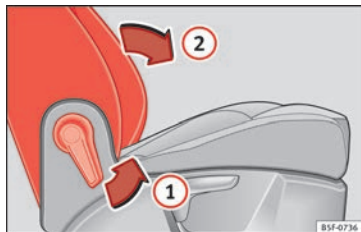

Fig. 152 Front passenger seat: lever for folding down the backrest.
- Pull lever **1** » **Fig. 152** and push the seat backrest **2** until the backrest is horizontal.